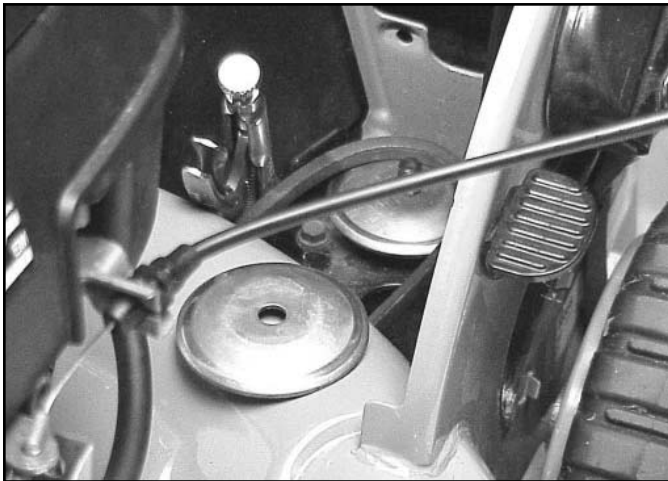

Fig 094
7. Lift the top half of the transmission pulley off. If just replacing the belt, push the belt into the cutting chamber and slip the belt over the blade. Reverse the process to install the new belt (Fig. 094).